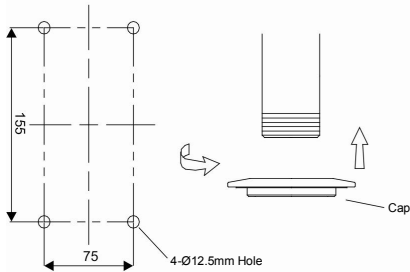

FIG. 26
- E-1.** If you want to install the speed dome on the concrete wall, you need to make 12.5mm diameter 4 holes by drill like FIG. 26. (Depth 37mm)